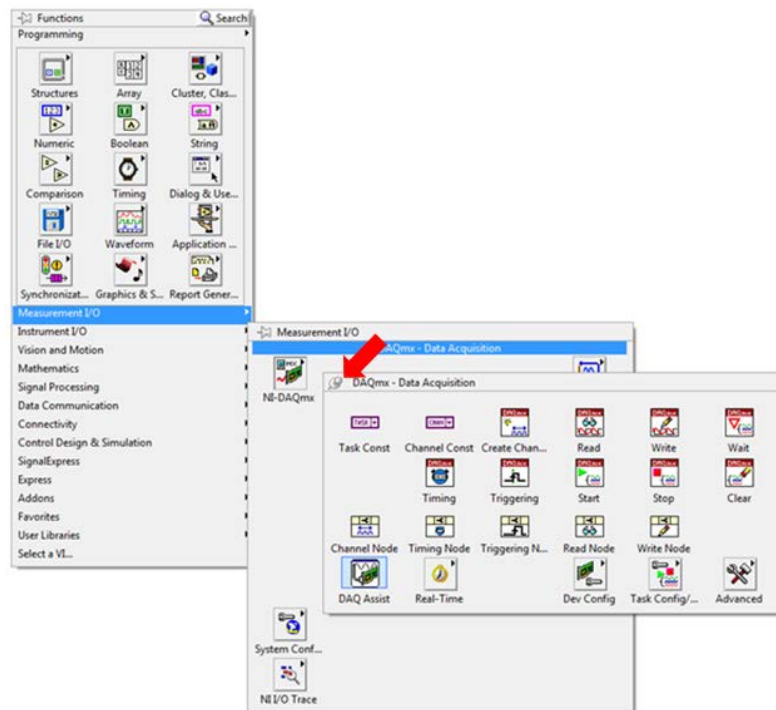

Figure 9. The DAQmx palette includes all the required VIs for communicating with your NI CompactDAQ chassis.
20. For this exercise, a large part of the coding will come from the DAQmx palette. To access this palette right-click on any white space on the Block Diagram and navigate to **Measurement I/O » NI-DAQmx**, like in Figure 9.
21. Click on the **pin** to keep this palette visible (red arrow in Figure 9).